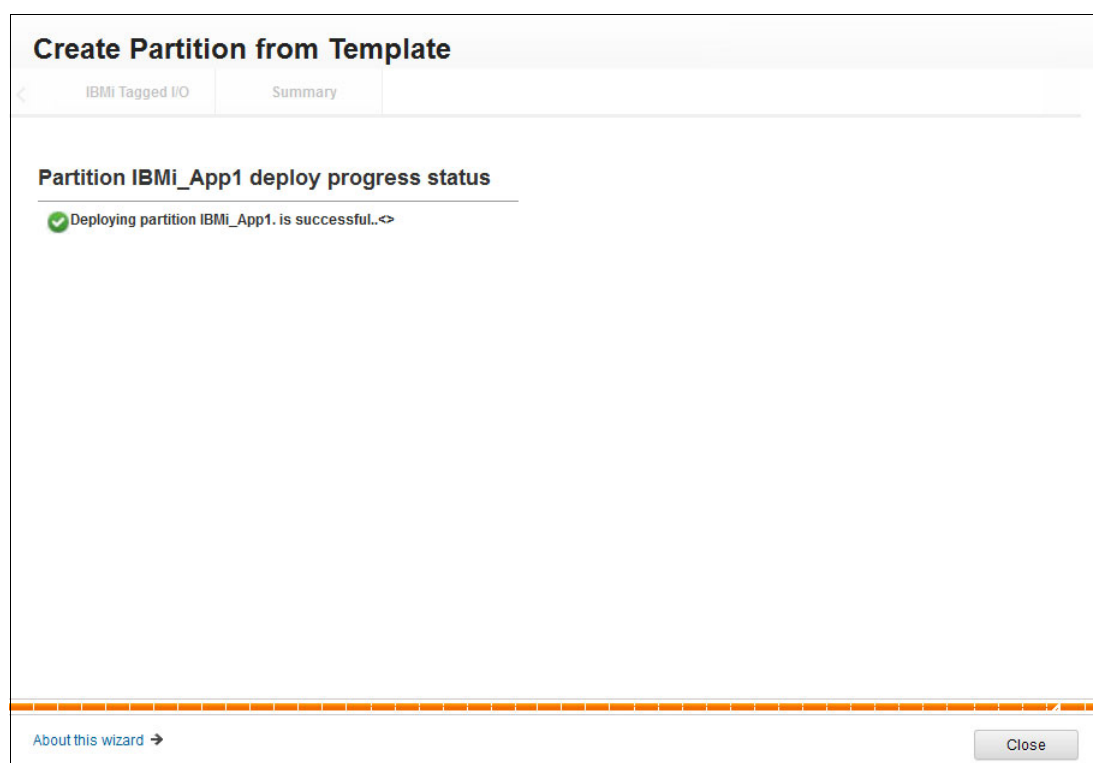

Figure 2-106 Deployment completed successfully
17. With a properly configured template and PowerVM environment, a successful deployment of your template can be achieved, as shown in Figure 2-106. Click **Close**.